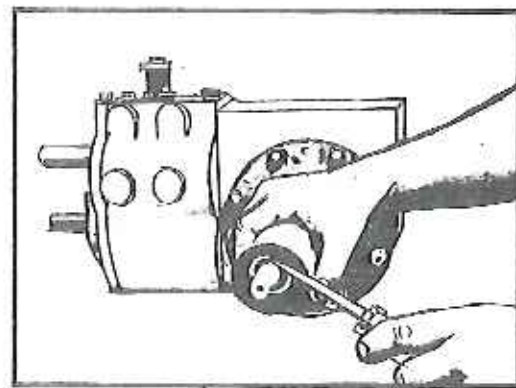

Fig. 5
6. TO REMOVE WHEEL HUB SEAL, PLACE A SMALL SCREW DRIVER TIP IN BACK OF SEAL AND PRY PROGRESSIVELY AROUND SEAL UNTIL REMOVED. DAMAGE WILL BE AVOIDED IF SCREW DRIVER IS KEPT BACK OF SEAL AND SNAP RING S1054. SNAP RING CAN BE REMOVED WITH A SMALL SCREW DRIVER OR SCRIBE POINT. SEE FIGURE 5.